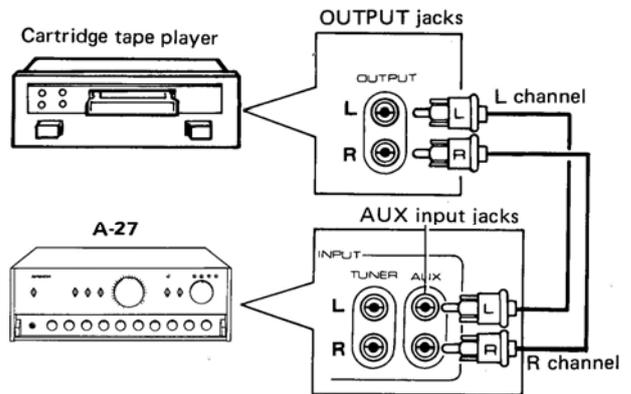

Fig. 4
You can connect an 8-track cartridge tape player, TV tuner, second tuner or tape deck playback output to these jacks (Fig. 4). Be sure to connect both left channel (L) and right channel (R) correctly.